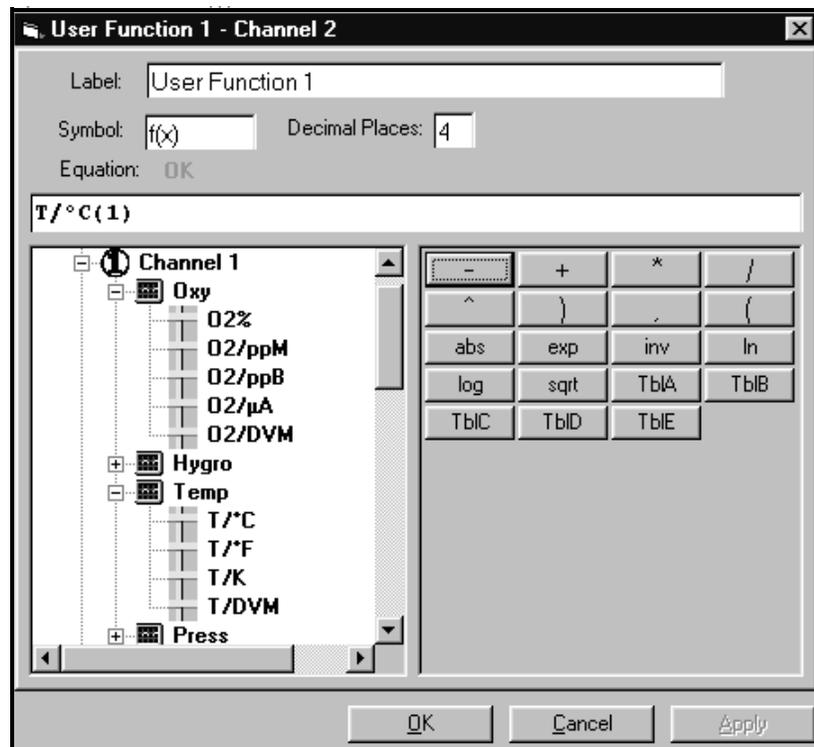

Figure 4-8: The User Function Window
2. Click on “*User Functions*,” and then double-click on the desired function (1 to 4). The right side of the screen appears similar to Figure 4-8 below.